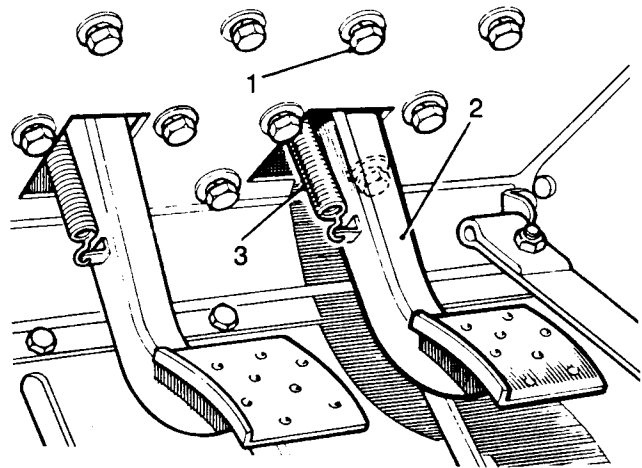

Fig K1.14
- (6) Refer to Fig K1.14. Refit the brake return spring (3).
- (7) Apply a waterproof sealant between the joint flanges of the pedal bracket and the toe box.
- (8) Replace the brake pedal and bracket assembly (2) from the engine compartment, manoeuvring the pedal through the aperture in the toe box.
- (9) Secure the brake pedal bracket with the fixings (1).
- (10) Replace the toe-board finisher panel: